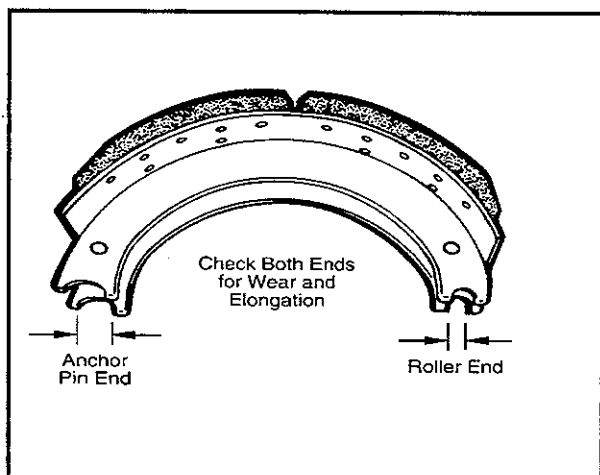

Figure 3—Check Shoe Web
1. Check brake shoes for bent or cracked webs, broken welds or loose rivets. (See Figure 3—Check Shoe Web.)